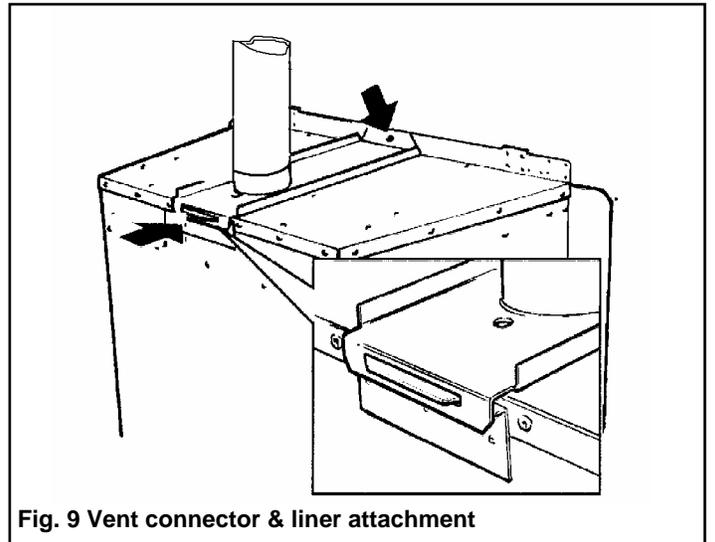

Fig. 9 Vent connector & liner attachment
5.2.1 Secure the collar on the vent connector unit to the 3" diameter chimney liner (Fig. 9).
5.2.3 Pull the vent connector towards the front of the fireplace and locate the rear slot in the plate on the lip at top rear of the appliance case. Fix the front of the vent connector plate to the appliance case top using the screw previously removed (Fig.9).